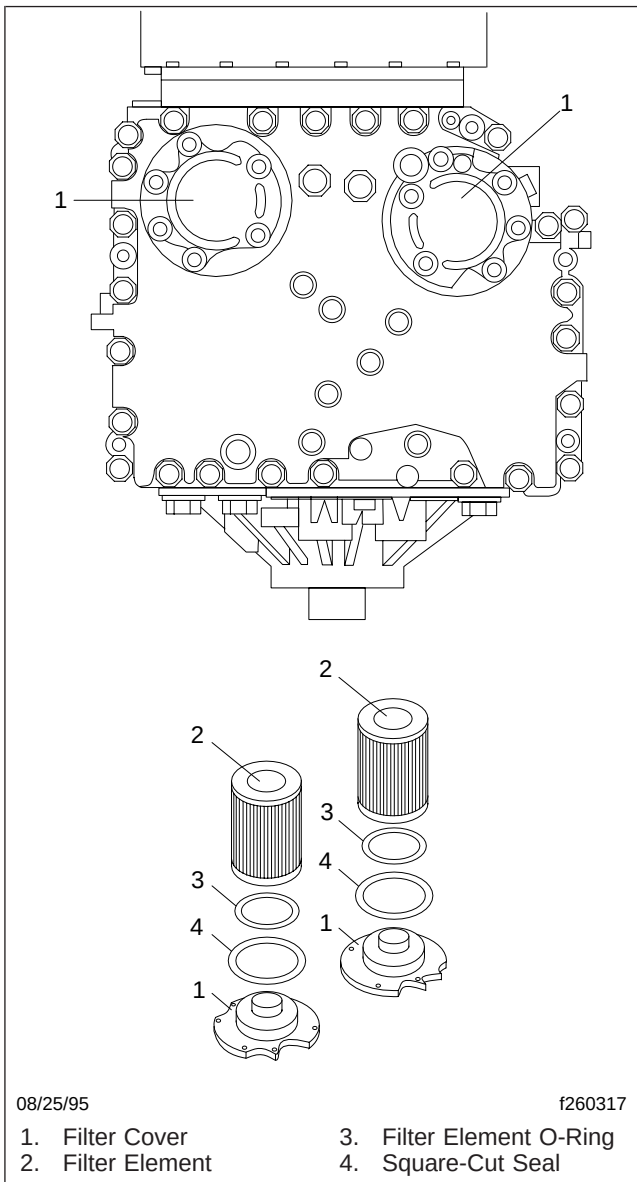

Fig. 7, Allison MD and HD Series Transmission Filter Locations and Components
- Remove the filter covers, O-rings, and two square-cut seals from the transmission. See Fig. 7.